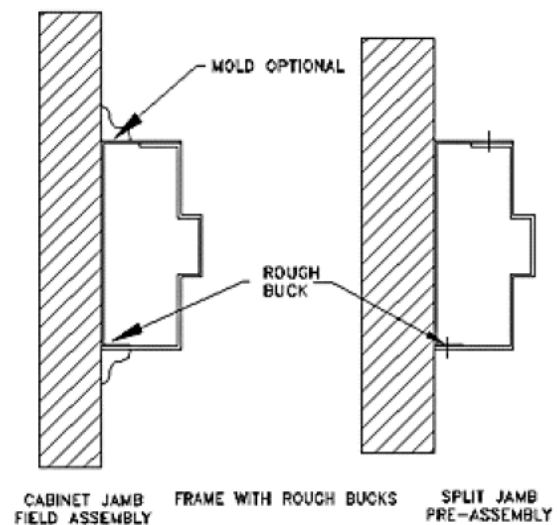

Figure 27
4. Rough Buck Frame: Employ similar steps as described above when a Rough Buck is used. (Figure 27)